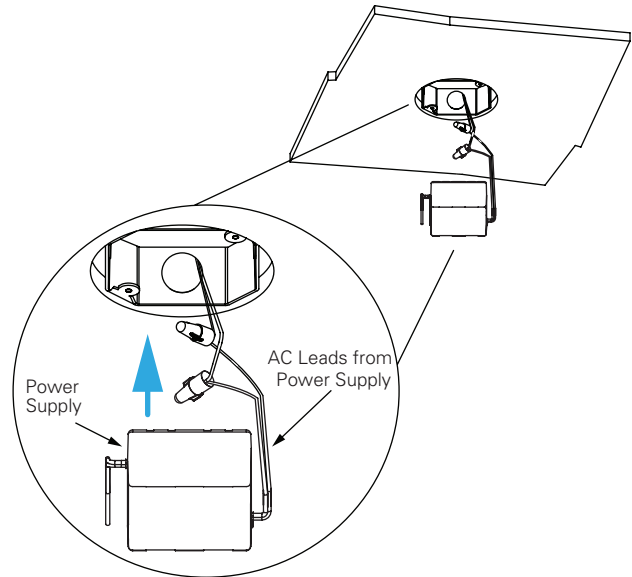

Figure 4.
2. Connect the AC leads from the power supply to the rough-in cables in the junction box (See Figure 4).